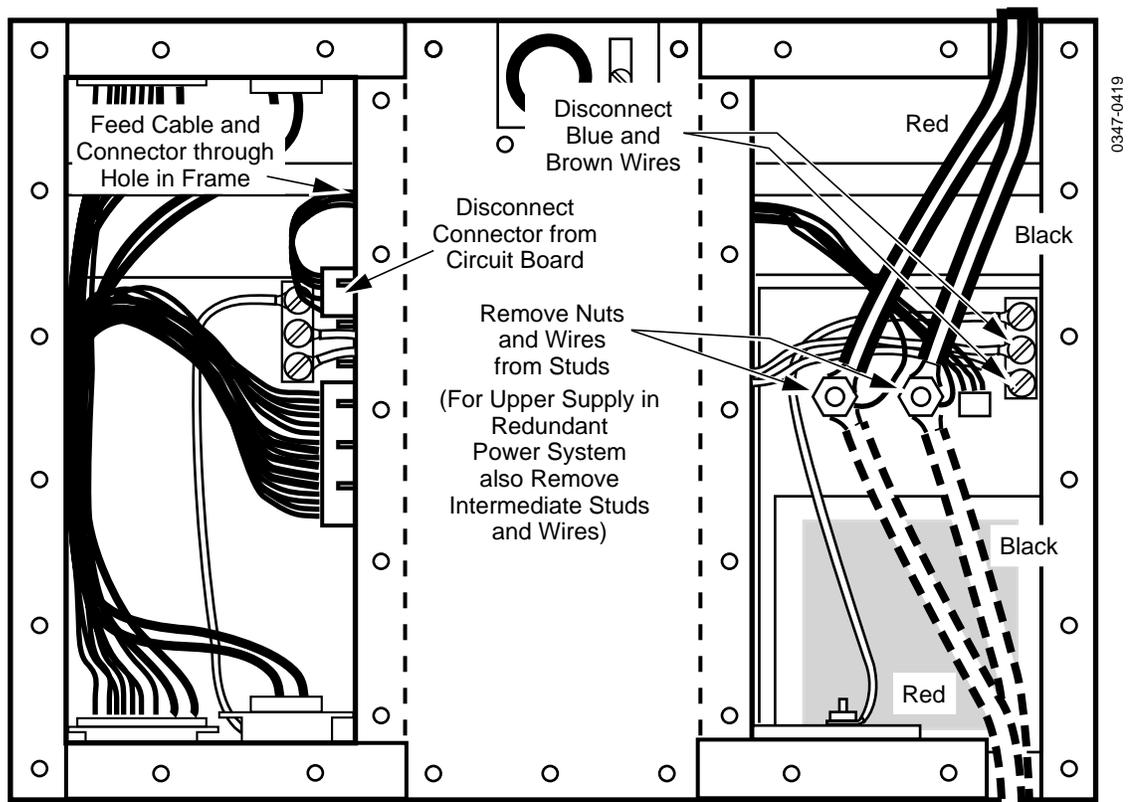

Figure 4-5. Removal of Pioneer +5 Volt Power Supply Assembly
4. Remove both the right and left rear covers of the power supply frame, as viewed from the rear, to access the wiring connections. See Figure 4-5.